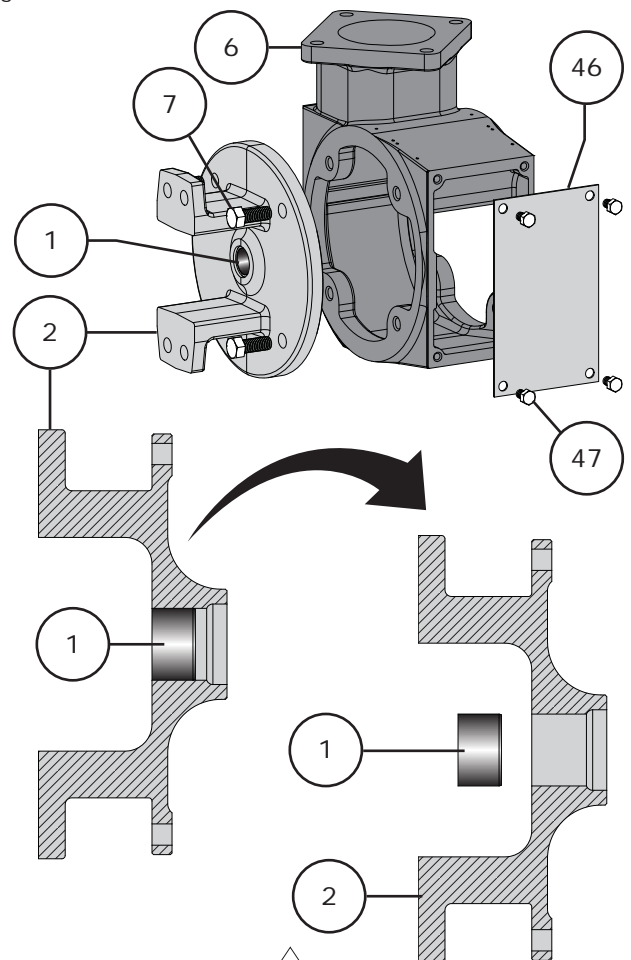

Figure 17 Yoke Removal and Disassembly
- 1 Support the actuator housing (Key 6) before removing the yoke (Key 2). To remove the yoke, remove the cap screws (Key 7). Refer to Figure 17.
- 3 Inspect the bushing (Key 1) inside the mounting yoke (Key 2). If the bushing is worn or damaged it will need to be replaced. Replace the bushing (Key 1) by carefully pressing it out of the yoke (Key 2). Refer to Figure 17.
- 1 If required, remove the positioner plate cap screws (Key 47) and positioner plate (Key 46). Remove the access plate cap screws (Key 49) and access plate (Key 48). Refer to Figures 17 and 18.